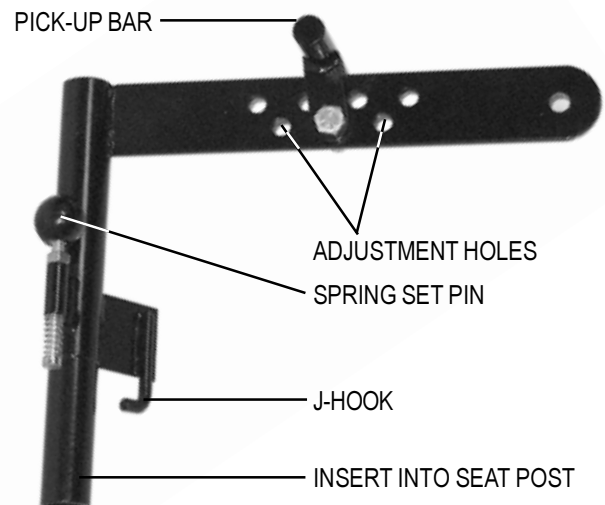

FIGURE 20A.
3. Push down on the docking device (making sure the J-hook descends through a notch in the clover leaf) and turn it toward the front until the spring set-pin snaps into place (through a notch in the clover leaf). See figure 20A.
1. Pull up on the spring set pin knob. See figure 20A.